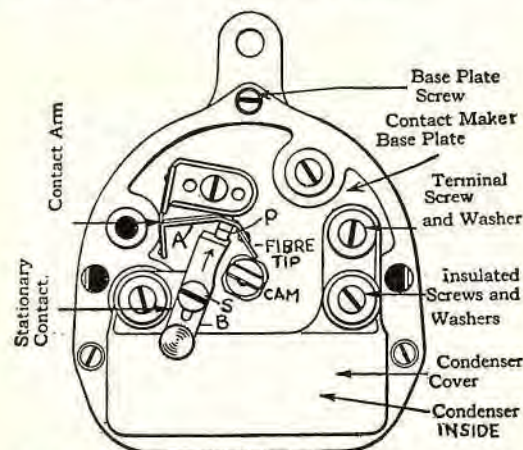

Fig. 13. Top view of Atwater Kent type "CC" closed-circuit timer (also called interrupter and contact-breaker).
The closed-circuit timer (we will term it an "interrupter," because it interrupts the flow of current in the primary winding instead of first closing and then opening) is shown in Fig. 13. Contacts are normally closed by a spring on the contact arm. Rotation of cam brings it in contact with a fibre tip
Fig. 13A. Top and side view of the distributor rotor which is placed on the top of the cam (Fig. 13), and serves to distribute the secondary current to the spark plugs in a manner similar to (DA) (Fig. 2, page 202).
Adjustment of the interrupter points on a closed-circuit system can be made by loosening screw (S) (Fig. 13) and moving arm (B).
On some of the type "CC" and "CA" interrupters a contact-breaker shown below is used. A contact screw (S) is used instead of (B) (Fig. 13) and a different arm (M) instead of (A) (Fig. 13). This type is known as "Style 46" for a $\frac{1}{2}$ " cam and "Style 80" for a $\frac{3}{8}$ " cam. The adjustment of the interrupter point gap is .015".
The condenser on the type "CC" closed-circuit system, instead of being in the coil, is located on the interrupter (Figs. 13 and 14). Note the circuit in Fig. 14. The condenser short-circuits across the timer contact-points for reasons stated on page 190.